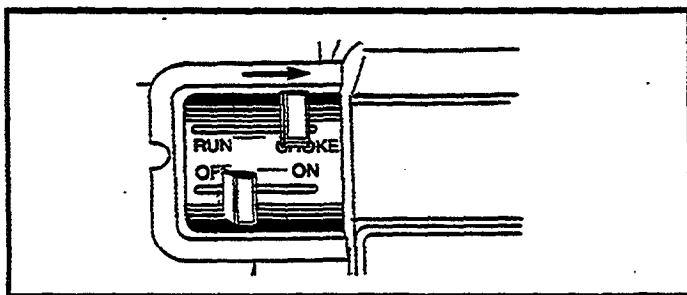

FIGURE 6
1. Move **CHOKE LEVER** to choke position (See Figure 6).